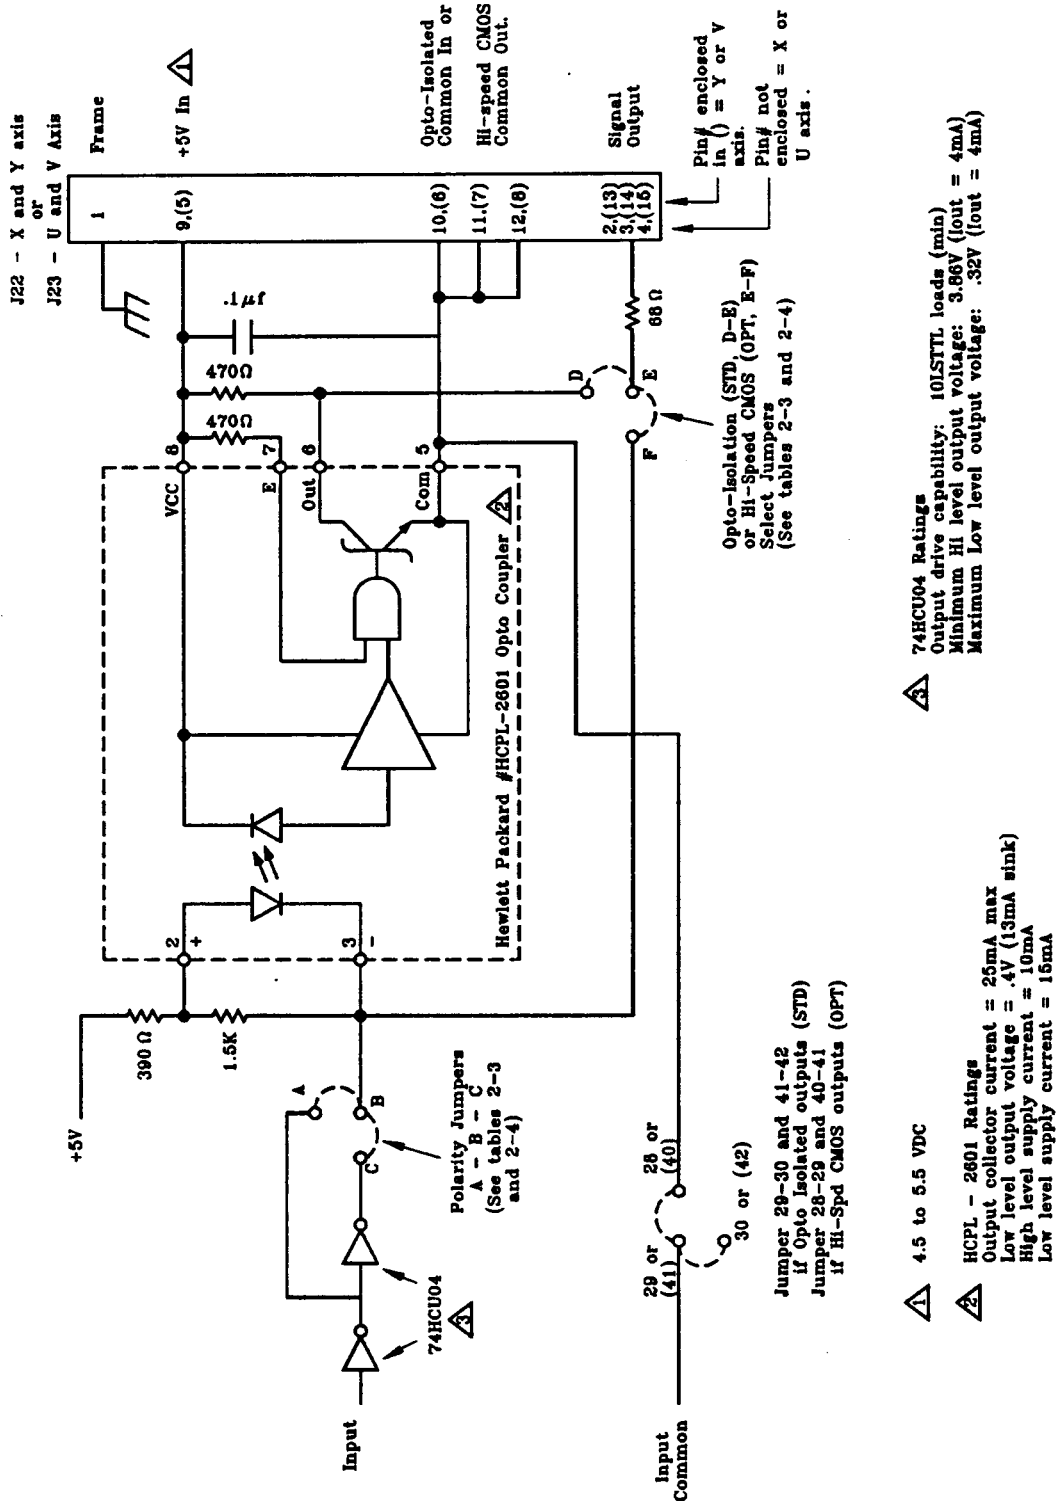

Figure 2-6: Typical "SEO" Output Circuit
The outputs present at J22 and J23 vary for stepping motor drives (D, DM, DMV Series) as opposed to DC servo motor drives (DSL Series). In addition, certain output variations and polarity inversions are possible within each subdivision. For J22/J23 outputs when stepping motor drives are being used, see table 2-3. For J22/J23 outputs when DC servo motor drives are being used, see table 2-4. Note that each table indicates the standard output functions, as well as applicable jumper information needed to change to certain optional output functions. Figure 2-6 shows the typical "electronics" for each available output.
- ² If opto isolators are used, add jumpers 29-30, 41-42. See figure 2-6.
- ³ If hi-speed CMOS, add jumpers 28-29, 40-41. See figure 2-6.
2 If opto isolators are used, add jumpers 29-30, 41-42. See figure 2-6.
3 If hi-speed CMOS, add jumpers 28-29, 40-41. See figure 2-6.
wound or "unipolar" wound, as shown in figures 2-6 and 2-7 respectively. DC servo motor termination is shown in figure 2-8.